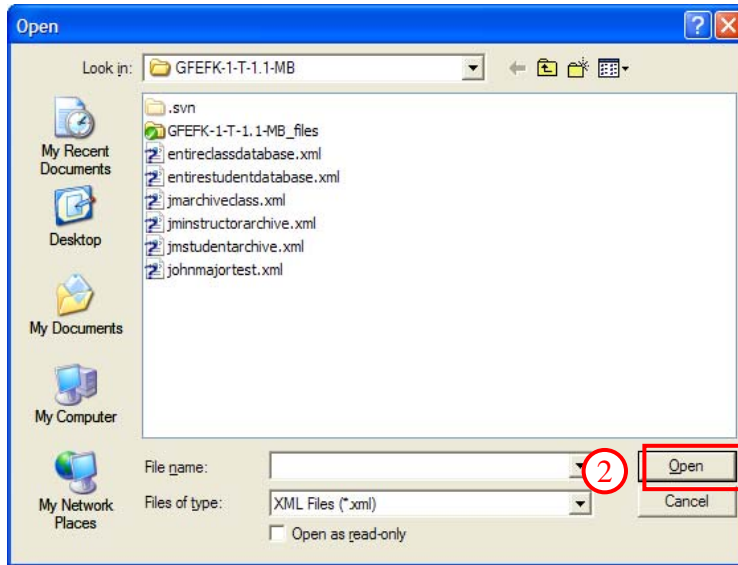

Figure 93. Retrieve Class - Open Dialog
2. An Open dialog box is displayed (Figure 93). Navigate to the desired location, select a File name and click the [OPEN] button.